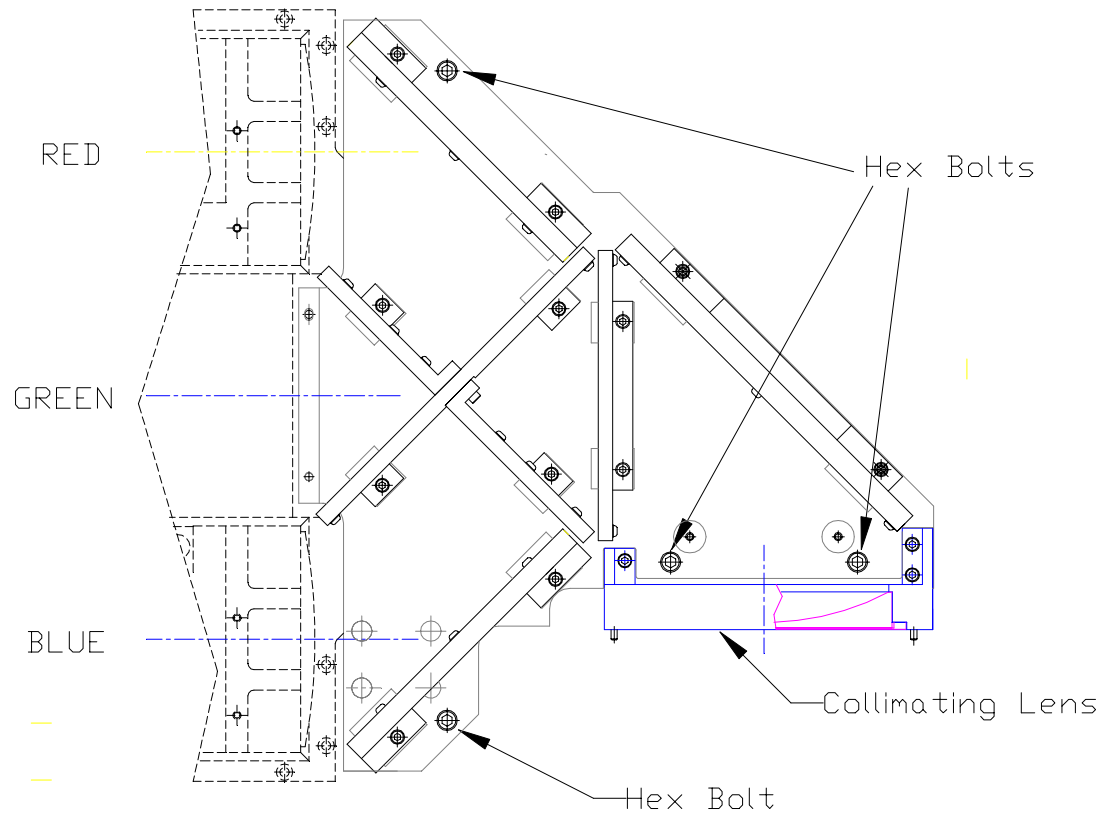

Figure 4-17. Dichroic Mirror Assembly.
5. Remove the Dichroic Mirror assembly by removing the remaining hex bolts (*Figure 4-17*). Use care when lifting the mirror assembly. Place it in a safe, level storage area.
6. Remove the 2 hex bolts from the front of the Prism assembly (*Figure 4-17*).